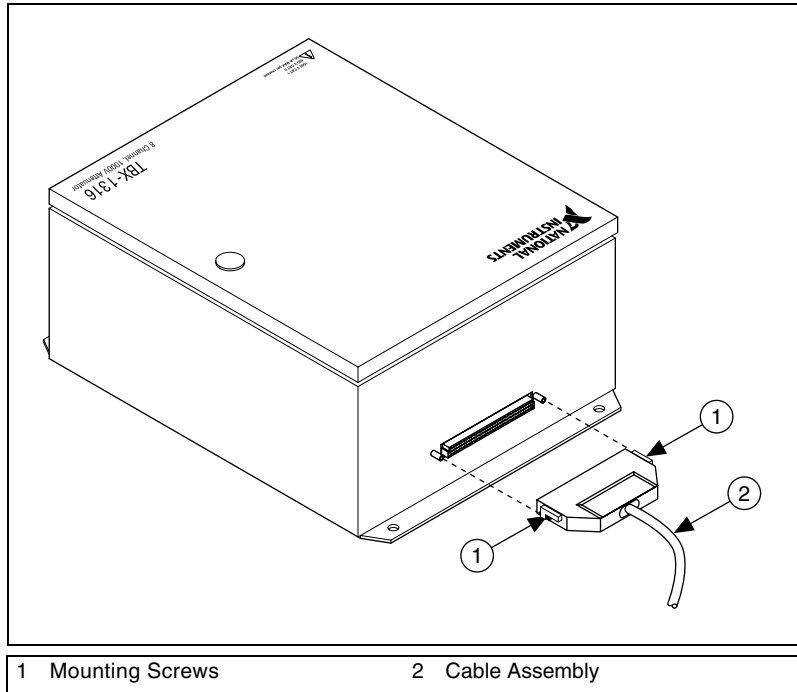

Figure 5. Connecting the Cable to the TBX-1316
6. Connect one end of the cable assembly to the SH3232 shielded cable connector on the TBX-1316, and secure the cable by tightening both mounting screws, as shown in Figure 5.